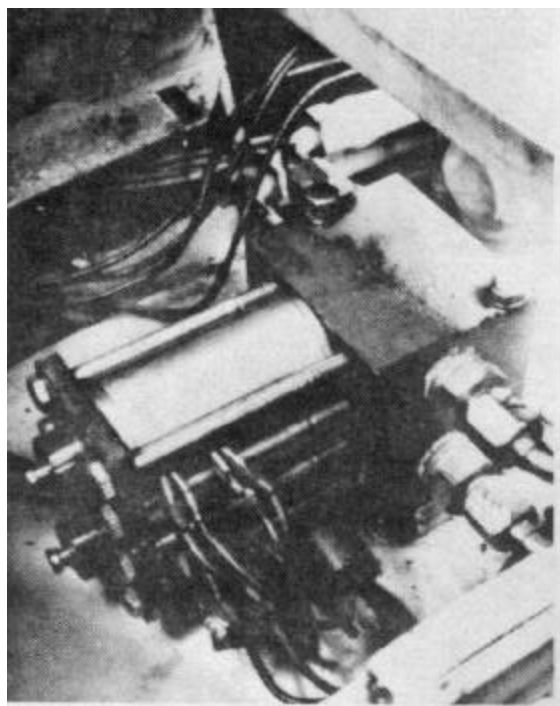
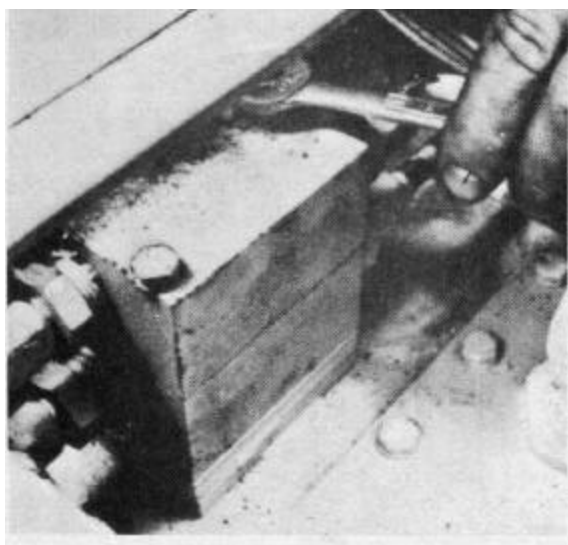

Figure 5-135
Figure 5-134
6. Raise the hinged door to expose the top of the reservoir (Pg. 4-2, item 6).
7. Loosen the (2) mounting screws from the pivot and shift hydraulic solenoid valves using a 7/16 inch wrench. The two solenoid valves are located under the floor of the electrical compartment and are partially visible (Fig. 5-134). A full view of the pivot and shift hydraulic solenoid valves is shown in figure 5-135 for reference purposes. The valves may remain attached to the associated hydraulic lines.
17. Attach the pivot and shift hydraulic solenoid valves (Fig. 5-134 and 5-135).